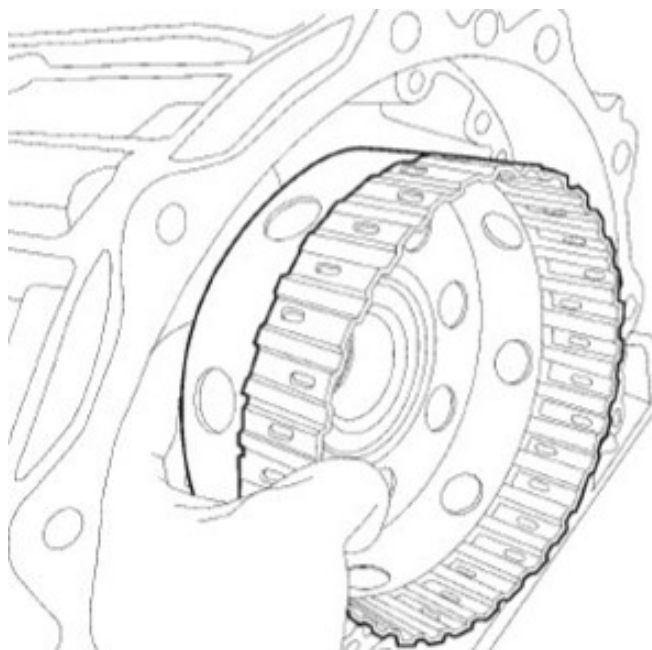

Fig. 10
13. Remove and inspect the K2 clutch hub Fig. 10. **Replace only if needed.**